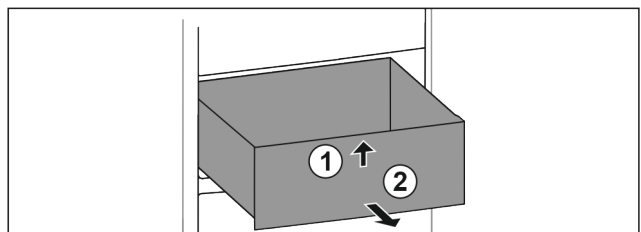

Fig. 28
- ▶ Lift up drawer at the front. Fig. 28 (1)
- ▶ Remove drawer to the front. Fig. 28 (2)